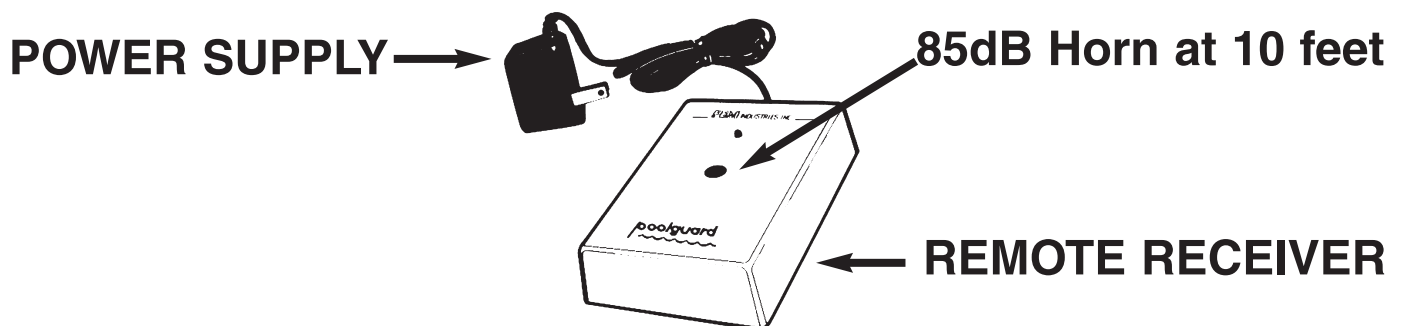

FIGURE 6
- A coded pulse receiver (Remote Receiver), (**See Figure 6**).
- A standard wall outlet power supply, (**See Figure 6**).